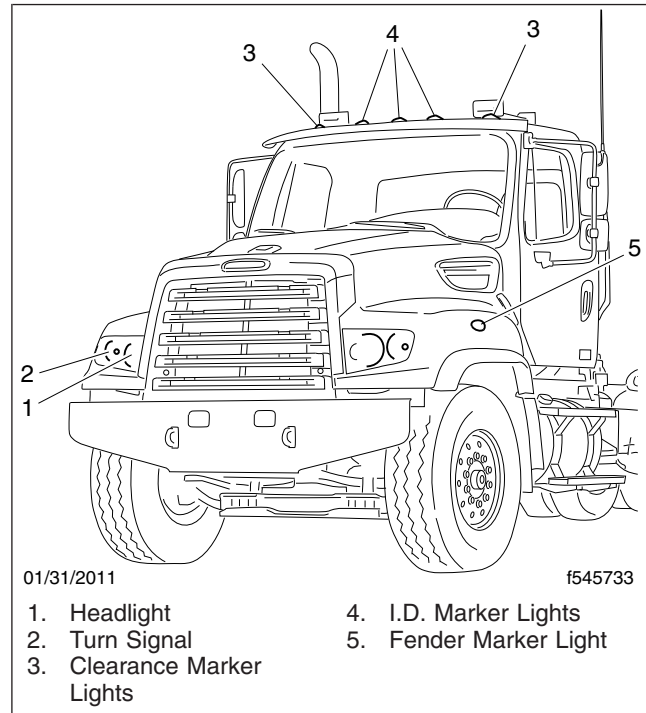

Fig. 21.8, Exterior Lights
12. Check the operation of all exterior lights. See Fig. 21.8.